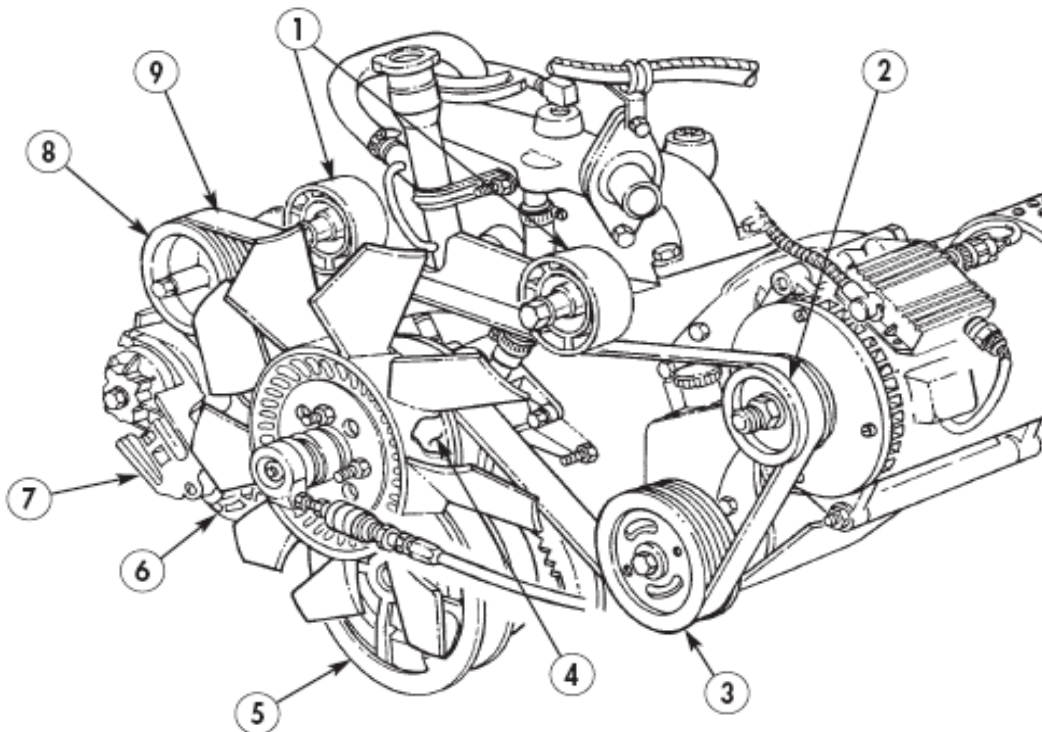

Figure 9
i. Removal of Serpentine Drive Belt. Refer to TM 9-2320-387-24-1, Chapter 3, Task Para 3-81, Page 3-142 and Task Para 3-81.1, Page 3-142.4 and **Figure 9** contained in these instructions.